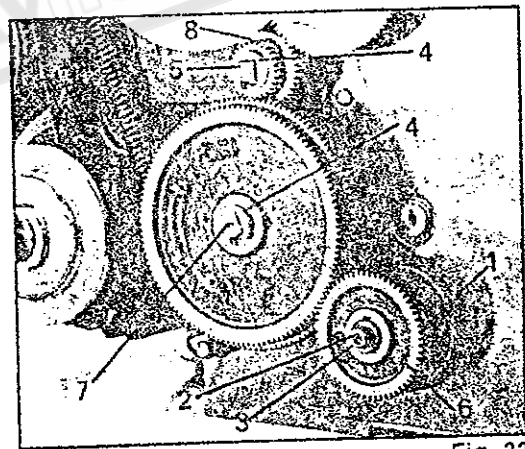

Fig. 22
Example of Gear Set-Up to Cut 10 T.P.I. (Fig. 22)
1. Loosen screw (1, Fig. 22)
2. Loosen bolt (2). Remove washers (3) and gear (6).
3. Loosen bolts (7) to allow movement in the center gear position.
4. Loosen nuts (5). Remove washer (4) and gear (8).